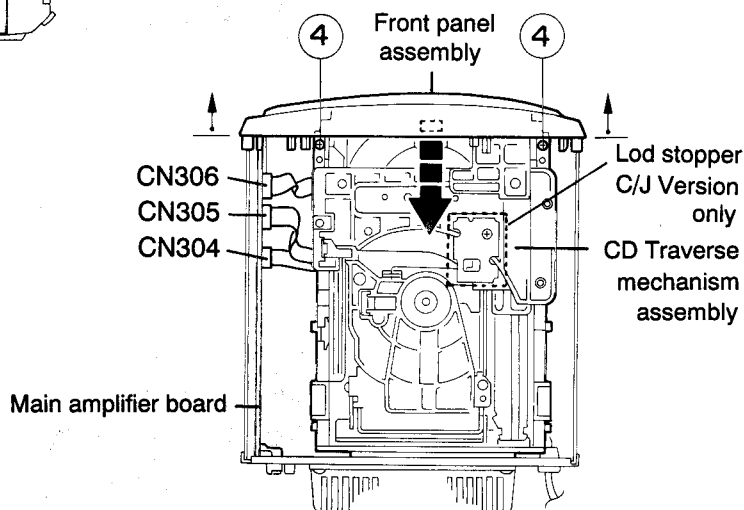

Fig.5-3
3. Remove the two screws ④ fastening the CD traverse mechanism assembly to the top panel of the main unit.(See Fig. 5-3)
4. Disconnect the card wires connected to the CD traverse mechanism assembly from connectors CN304, CN305 and CN306 on the main amplifier board on the right side of the main unit.(See Fig. 5-3)
6. Tilt the front panel assembly slightly forward and remove the CD traverse mechanism assembly from the front panel assembly by shifting in the direction of the arrow and lifting upward.(See Fig. 5-3)